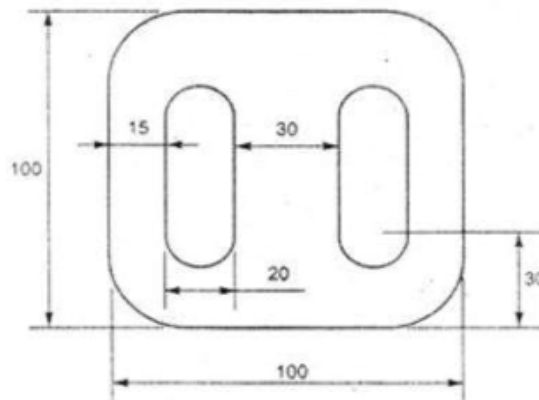

Figure 1
1. Create a two-dimensional illustration based on the diagram provided in Figure 1